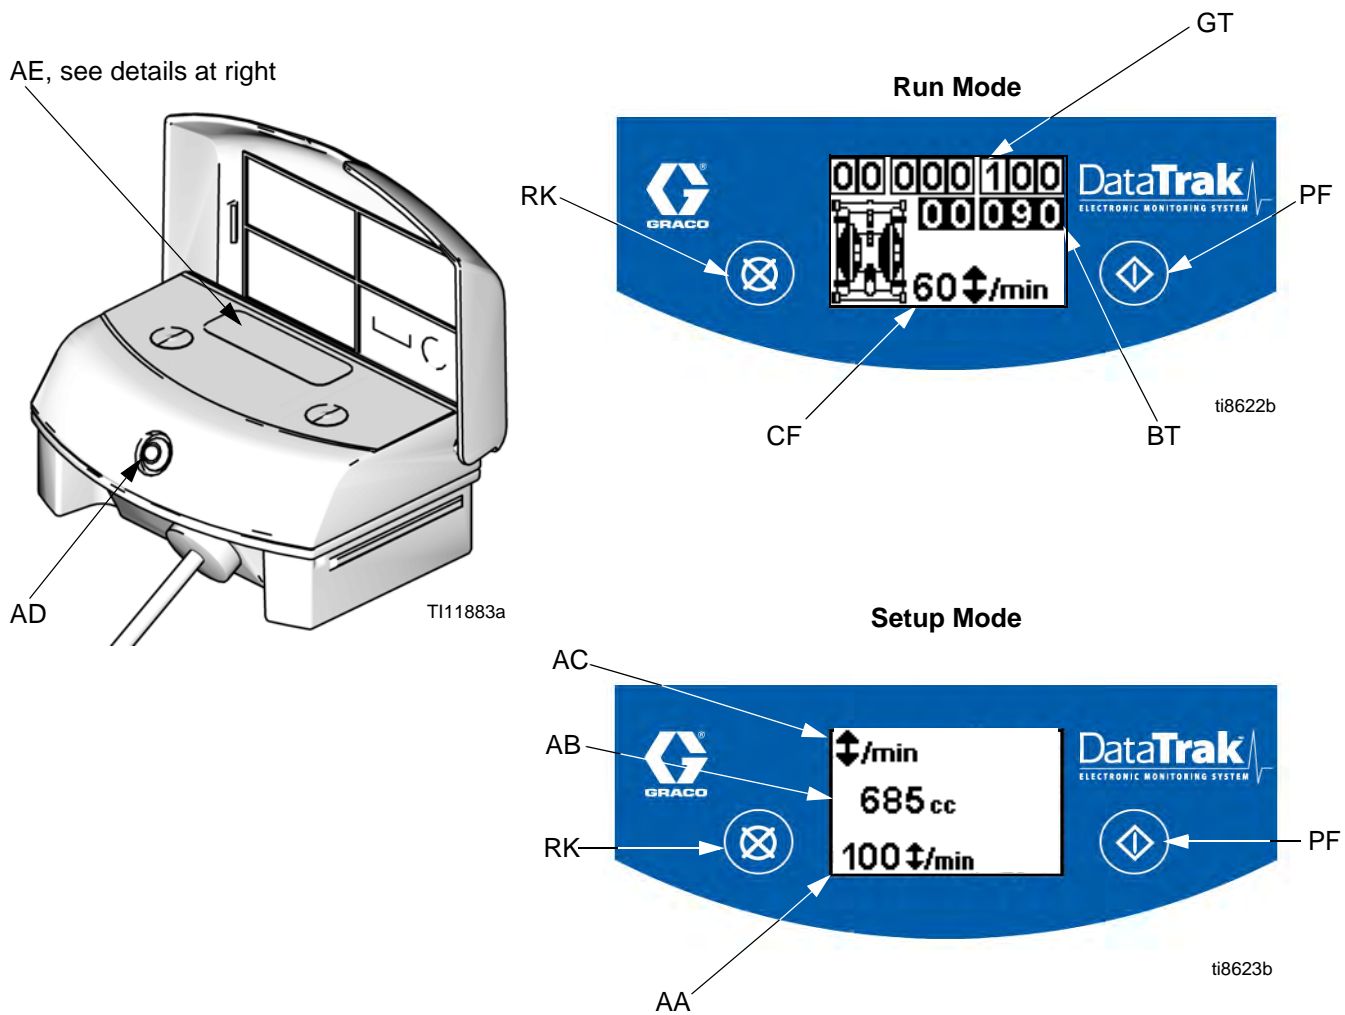

Fig. 1. DataTrak Controls and Indicators
1. See Fig. 1. Press and hold  for 5 seconds until Setup menu appears.
NOTE: To disable runaway monitoring, go to setup mode and set runaway value to 0 (zero). See Fig. 1.
1. See Fig. 1. To enter Prime/Flush mode, press any key to wake up the display, then press . The Prime/Flush symbol will appear in the display and
See Fig. 1. The display (AE) will turn off after 1 minute of inactivity in Run mode or 3 minutes in Setup mode. Press any key to wake up the display.
DataTrak can diagnose several problems with the pump. When the monitor detects a problem, the LED (AD, Fig. 1) will flash and a diagnostic code will appear on the display. See Table 1, page 10.